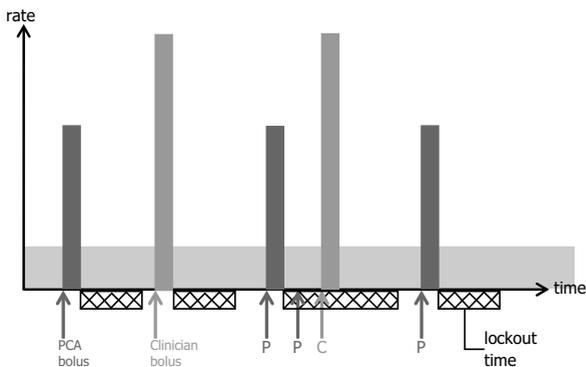

Figure 4.3: PCA bolus + continuous infusion mode
- PCA bolus + continuous rate, see Figure 4.3, page 27